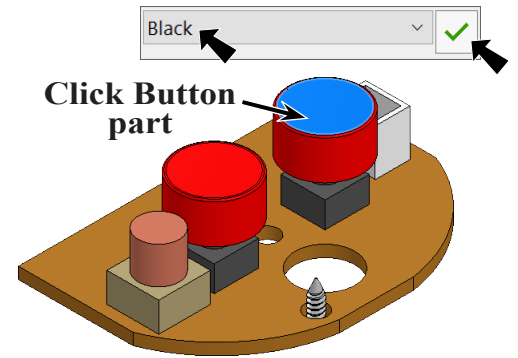

Fig. 24
Step 1. **Activate Button part**  **Black configuration.** To activate, click the **rear Button** in graphics area, then set configurations drop down to **Black** and click **OK**  , Fig. 24.